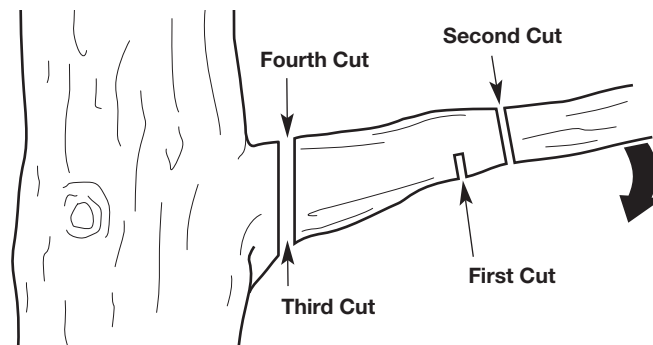

Fig. 27
1. Make the first cut approximately 6 inches (15 cm) from the tree trunk. Cut upward, from the underside of the limb. Use the top of the guide bar to make this cut. Cut a third of the way through the diameter of the limb (Fig. 27).
2. Make the second cut 2 - 4 inches (5 - 10 cm) farther out on the limb. Cut downward, from the top of the limb. Use the bottom of the guide bar to make this cut. Cut completely through the limb (Fig. 27).
3. Make the third cut as close to the tree trunk as possible. Cut upward, from the underside of the limb stub. Use the top of the guide bar to make this cut. Cut a third of the way through the diameter of the limb (Fig. 27).
4. Make the fourth cut directly above the third cut. Cut downward, from the top of the limb stub. Use the bottom of the guide bar to make this cut. Cut completely through the limb stub to meet the third cut (Fig. 27). This will remove the limb stub.